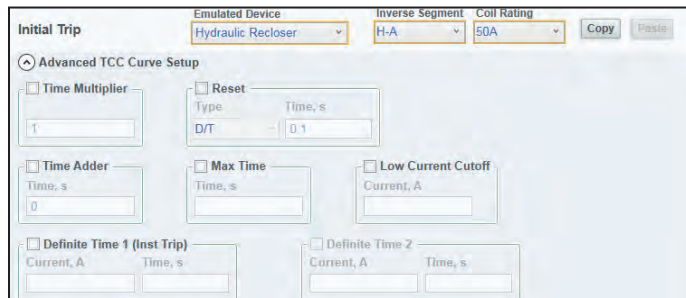

Figure 104. The Advanced TCC Curve Setup when Hydraulic Recloser is selected under Emulated Device.
**Advanced TCC Curve Setup** (optional). Click on the words to expand/collapse area. See Figure 104.